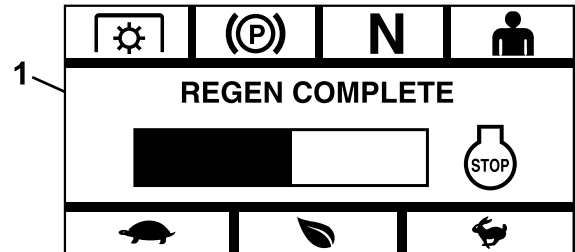

Figure 17
- **Complete**—if the process completes successfully, the module displays the Regen Complete screen (Figure 17). It includes a 5-minute countdown bar graph.